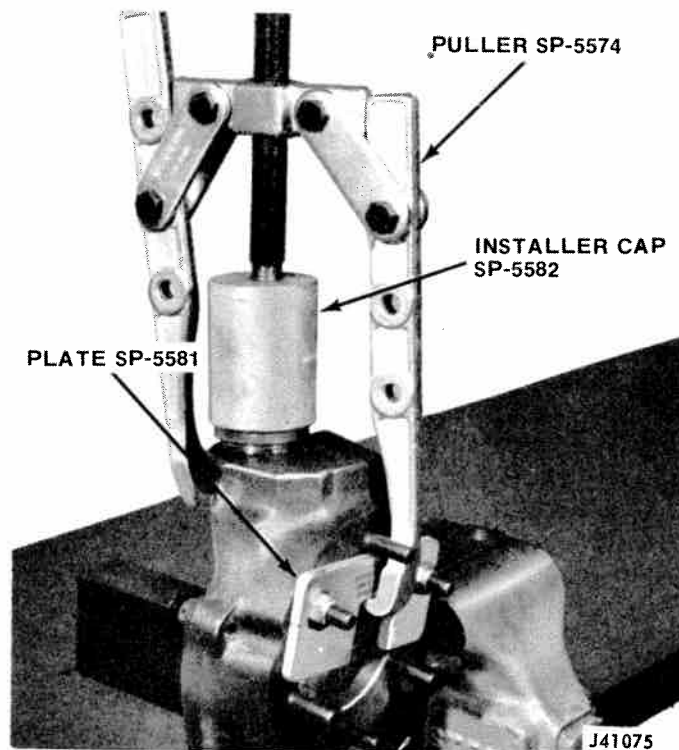

Fig. 10-9 Upper Ball Joint Installation
(6) Position upper ball joint on the knuckle. Use Installer Cup SP-5582 and Puller Assembly SP-5574 to press in upper joint (fig. 10-9).